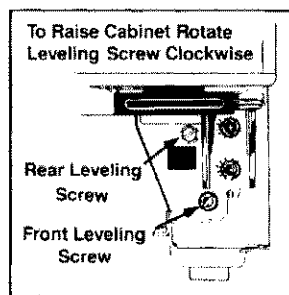

FIGURE 10
ice making. This allows doors to close firmly. Your refrigerator is equipped with front and rear leveling feet. Adjust the wheels or leveling feet to level the refrigerator. To raise, turn screw or leveling feet clockwise. To lower, turn counter-clockwise. See Figure 10. Improper leveling will cause water spills and uneven ice cube size.
- A. Lower the front roller (turn the screw clockwise one turn at a time) on the side of the refrigerator which has the lower door. See Figure 10.